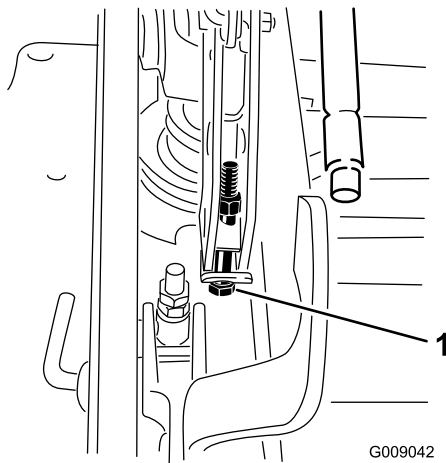

Figure 86
13. If the deck is too low, tighten the single point adjustment bolt by rotating it clockwise. If the deck is too high, loosen the single point adjustment bolt by rotating it counterclockwise (Figure 86).